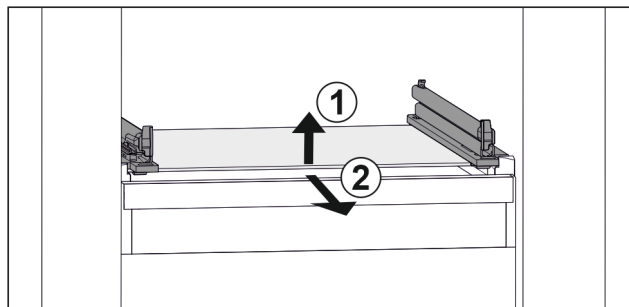

Fig. 158 Example illustration of glass shelf
- Lift glass shelf at the front. Fig. 158 (1)
- Take out glass shelf to the front. Fig. 158 (2)